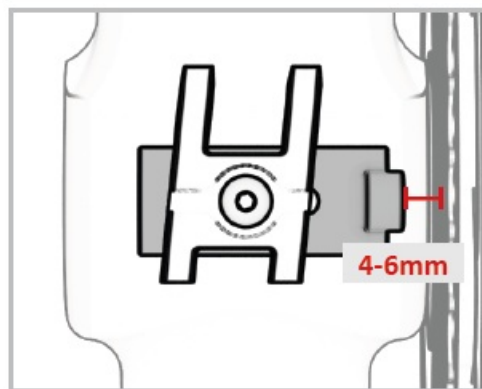

FIG. 9
- Position the magnet 4-6 mm from the backside of the PowerMeter (Fig. 9).